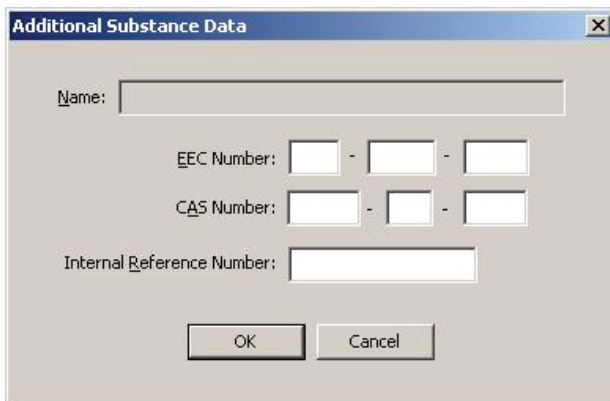

Figure 3-3. Additional Substance Data
6. (optional) Click **More substance data** to display the *Additional Substance Data* dialog box (Figure 3-3).